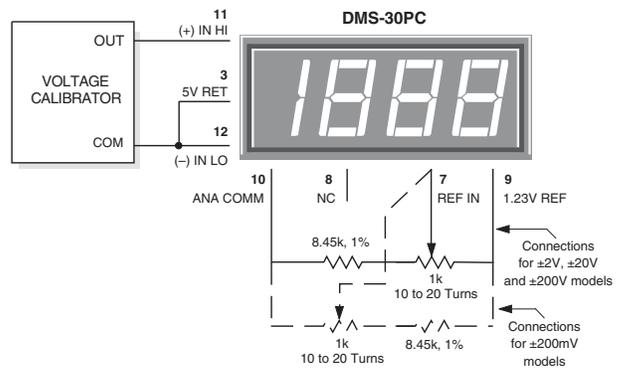

Figure 10. External Gain Adjustment
**6. Gain Adjust:** There is a gain-adjust potentiometer on the back of each meter. It has approximately ±50 counts (±2.5%) of adjustment range. Since these devices essentially have no zero/offset errors, a gain adjustment is effectively an overall accuracy adjustment. Though they may be performed at any point (except zero), accuracy adjustments are most effective when performed with higher level input signals. The circuit shown in Figure 10 provides ±10% range of adjustment.
**8. External Gain Adjustment:** Connect REFERENCE OUT (pin 8) to REFERENCE IN (pin 7) for normal, factory calibrated, operation. Use the +1.23V REFERENCE OUT (pin 9) for applications needing external gain adjustment. Figure 10 shows the wiring configuration for each model. Calibration is performed with a precise, near-full-scale, input voltage.